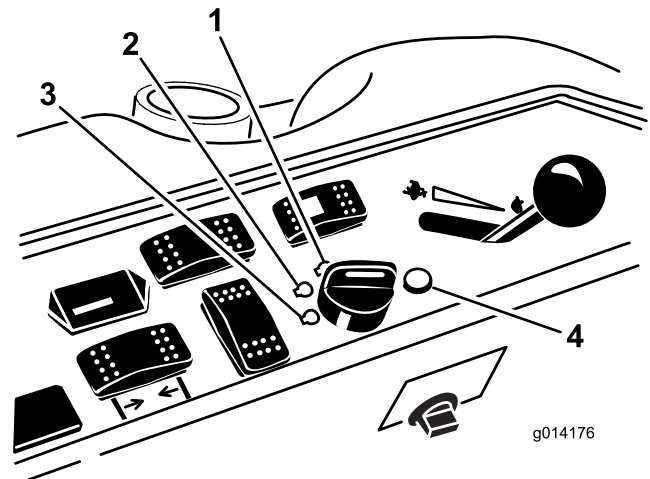

Figure 12
6. Turn the ignition key clockwise to the Run position (Figure 12).
3. Turn the ignition key to the Off position (Figure 12). Wait for all moving parts to stop before leaving the operating position.